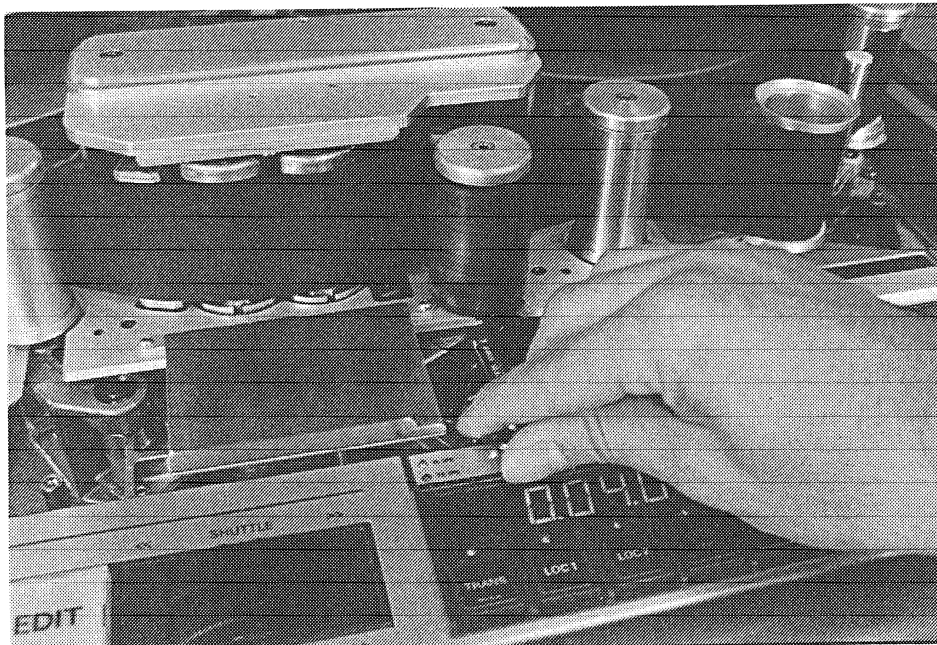

Fig. 18
- If the tape does not return into its normal path, the pinch roller shaft should be turned clockwise by 20 degree. See Fig. 18.